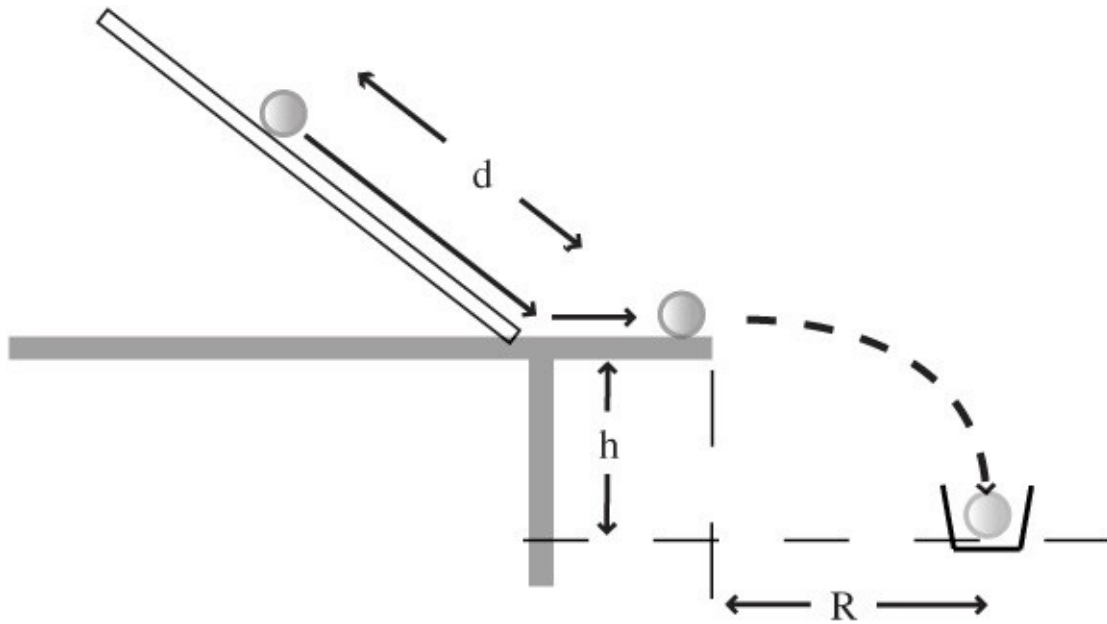

Figure 8-1 *Horizontal projectile.*
3. Set the (center of the) cup at the distance you predicted and try it out. No cheating. It is more fun to call your shot first, and then see if it works. Line the cup up visually, so it is on a straight line with the motion of the marble, as shown in Figure 8-1.